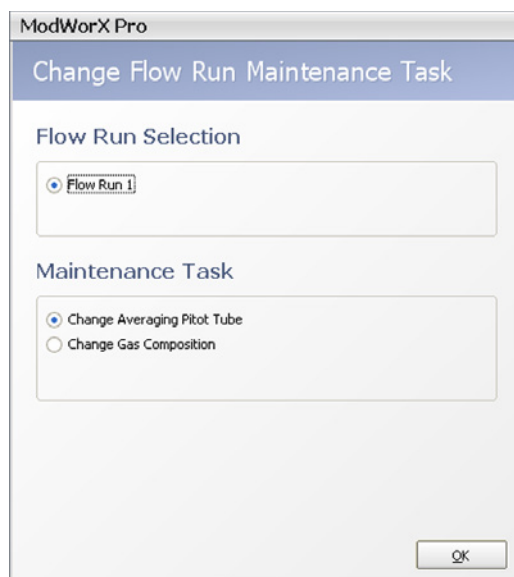

Figure 11.2
2. Click **Yes** at the Enter Maintenance Mode prompt. The Change Flow Run Maintenance Task screen will appear (Figure 11.2, page 162).